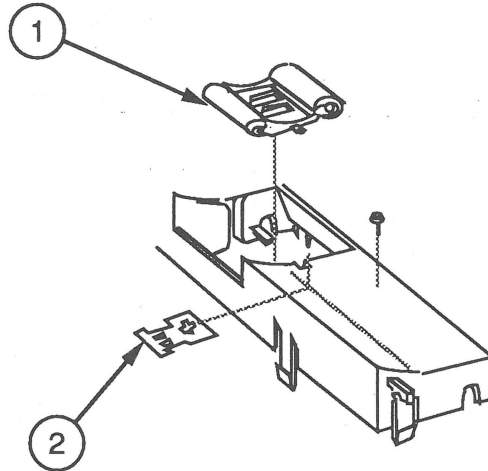

FIGURE 18
26. Lift off and remove the two pinch rollers (Figure 18, #1) and metal plates (Figure 18, #2).